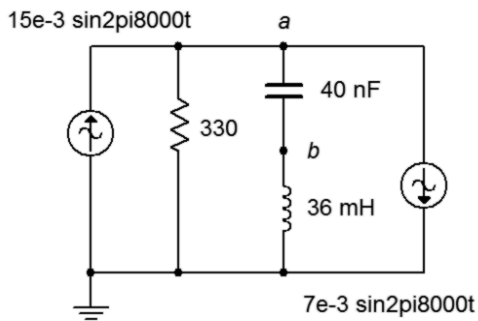

Figure 6.14
27. Use nodal analysis to find the current through the 330 Ω resistor in the circuit of Figure 6.14.
28. Given the circuit in Figure 6.14, write the node equations and determine v_b .